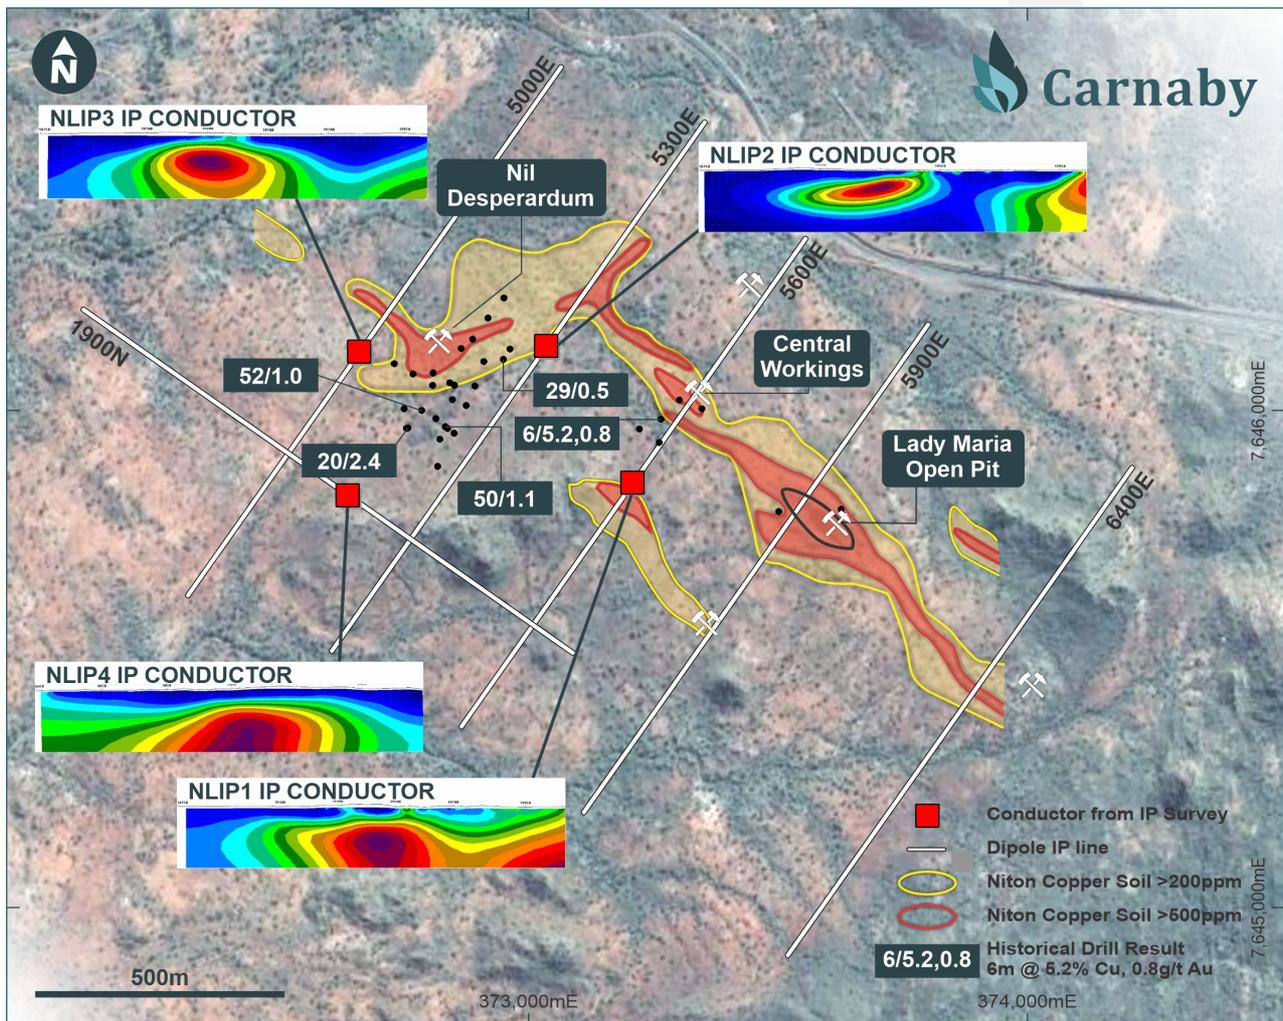
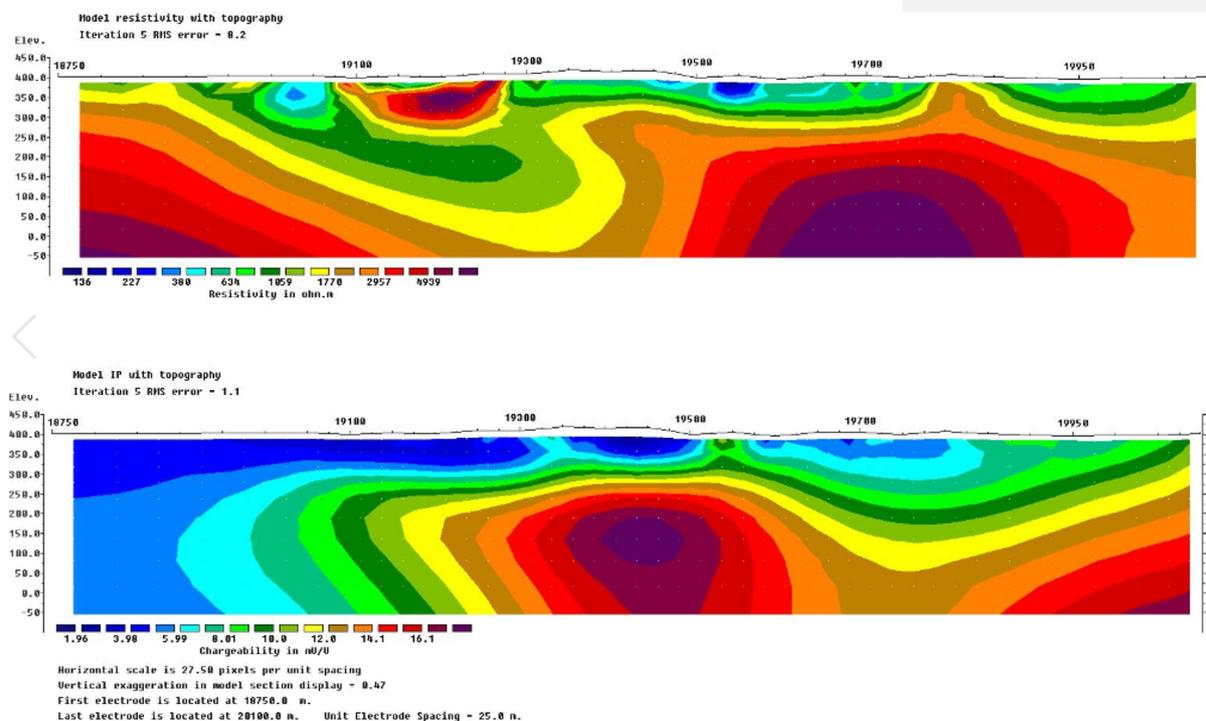
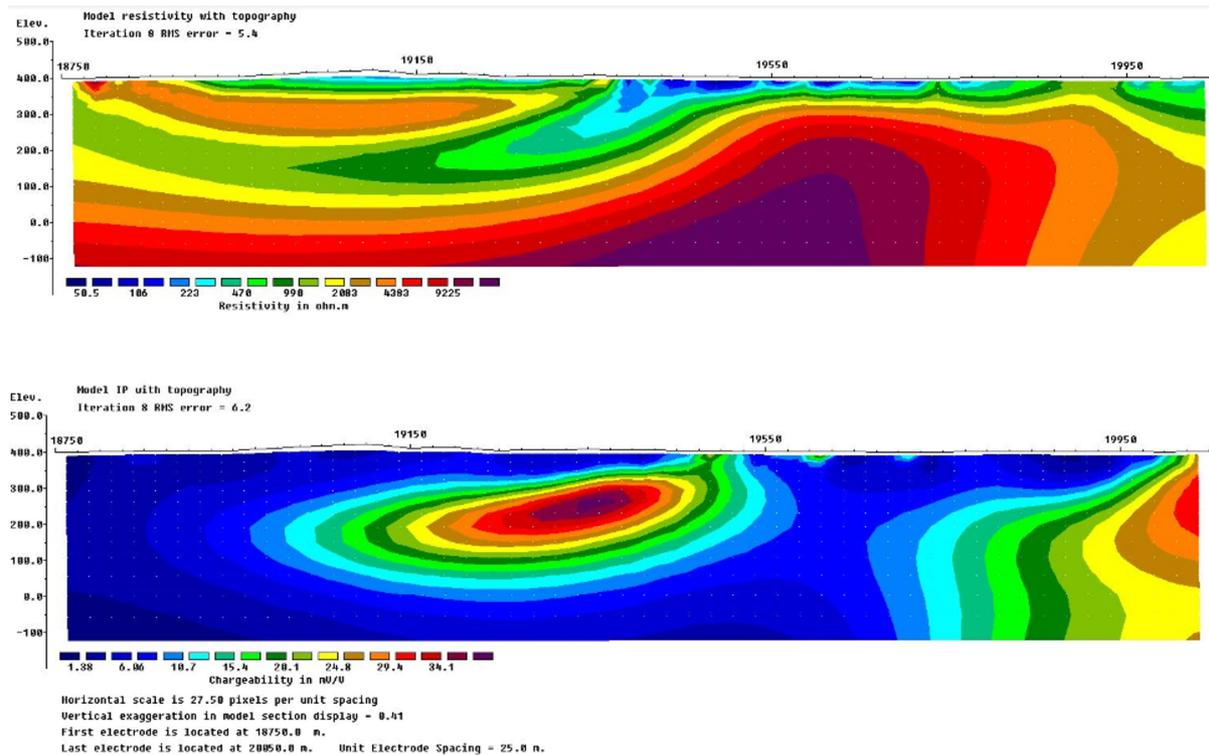
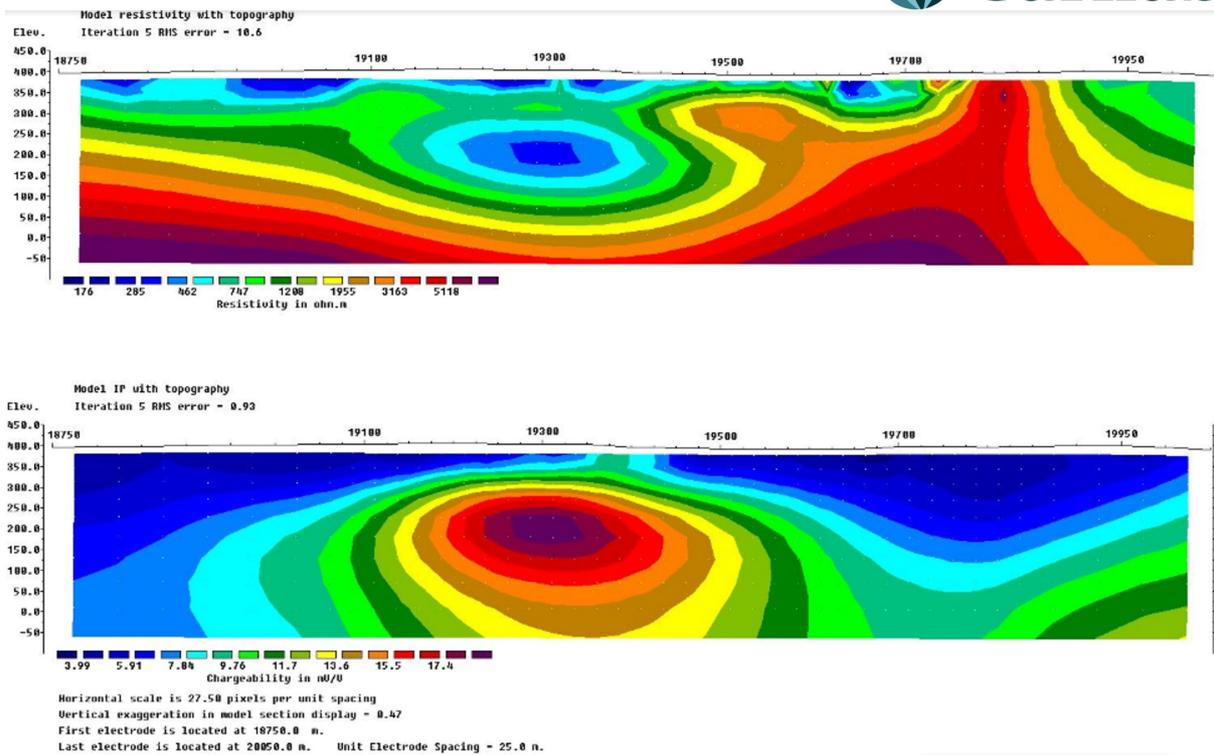

Figure 2. Nil Desperandum Plan showing location of IP lines and new conductors.
Figure 3. Nil Desperandum IP Line 5600E showing inversion modelling of resistivity (top image) and chargeability (bottom image) and NLIP1 anomaly.
Figure 4. Nil Desperandum IP Line 5300E showing inversion modelling of resistivity (top image) and chargeability (bottom image) and NLIP2 anomaly.
Figure 5. Nil Desperandum IP Line 5000E showing inversion modelling of resistivity (top image) and chargeability (bottom image) and NLIP3 anomaly.
Carnaby has just completed 7.4-line km's of pole-dipole Induced Polarisation (IP) surveying over 6 lines at Nil Desperandum (Figure 2). The inversion modelling, completed by Southern Geoscience, has generated at least 4 strong conductive anomalies with coincident resistivity lows, named NLIP1 to NLIP4 (Figure 2). A description of each of these conductive responses is given below including inversion modelled sections.
NLIP1 is located on line 5300E, 400m southeast of the main known copper mineralisation at the Nil Desperandum workings and is coincident with an area of surface copper anomalism from historical Niton soil sampling along the Nil Desperandum No 3 workings trend (Figure 2). The centre of the conductor is approximately 200m below surface (Figure 3) with the closest historical drilling being 180m to the northeast at the central workings where historical results up to **14m @ 2.4% copper** including **6m @ 5.2% copper** have been recorded. The source of the NLIP1 conductor is at present unknown and will be tested with drilling as part of the RC drilling program commencing next week.
NLIP2 is located on line 5600E, 60m southeast of historical drill hole ND016 which intersected **29m @ 0.5 % copper** from 55m (Figure 2). A strong shallow southwest dipping conductor with a coincident resistivity low is centred at approximately 150m below surface (Figure 4). The source of the conductor is likely to be the main mineralised Nil Desperandum Shear Zone.
NLIP3 is located on line 5000E, approximately 160m northwest of the main known southwest striking Nil Desperandum copper mineralisation where results up to **50m @ 1.1% copper** are present (Figure 2). NLIP3 has strong “bullseye” conductor and resistivity anomaly located at approximately 150m depth (Figure 5). The source of the conductor is unknown, however an off-hole source to the southeast from the main known mineralisation cannot be ruled out. An historical IP line completed at Nil Desperandum in 1996 did define a conductor directly over the known main lode mineralisation, importantly showing that a strong IP response is being generated from the copper sulphide style mineralisation at Nil Desperandum.